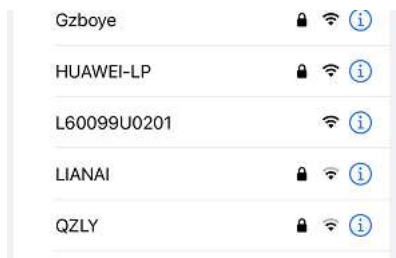

Figure 3-1: Access point name
2. The wireless access point name will be shown up which is same as the serial number as shown in Figure 3-1. There is no password needed by default.